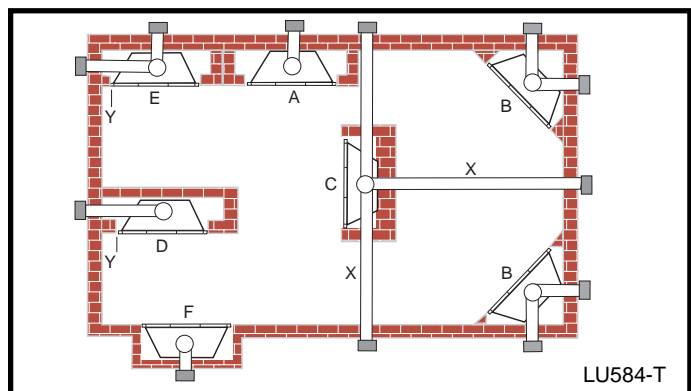

Fig. 1 Locate gas fireplace.
Note (Fig. 1):
** Island (C) and Room Divider (D) installation is possible as long as the horizontal portion of the vent system (X) does not exceed 20' (6m). See details in manual Venting Section.
* When you install your fireplace in (D) Room divider or (E) Flat on wall corner positions (Y), a minimum of 6" (152mm) clearance must be maintained from the perpendicular wall and the front side edge of the fireplace. See (Y) in Fig. 1.